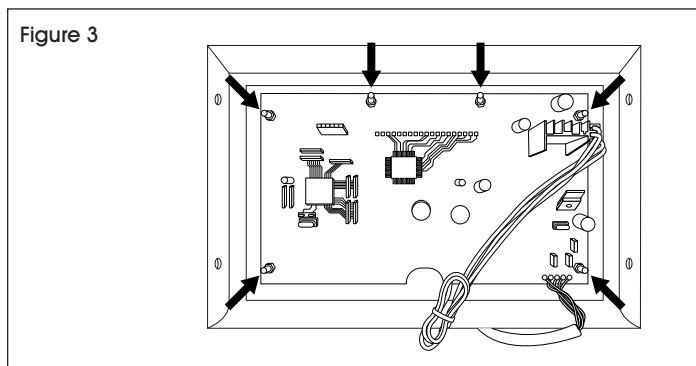

Figure 3
2. Turn faceplate over. Remove six nuts from mainboard using wrench with 7 mm socket. (See Figure 3)